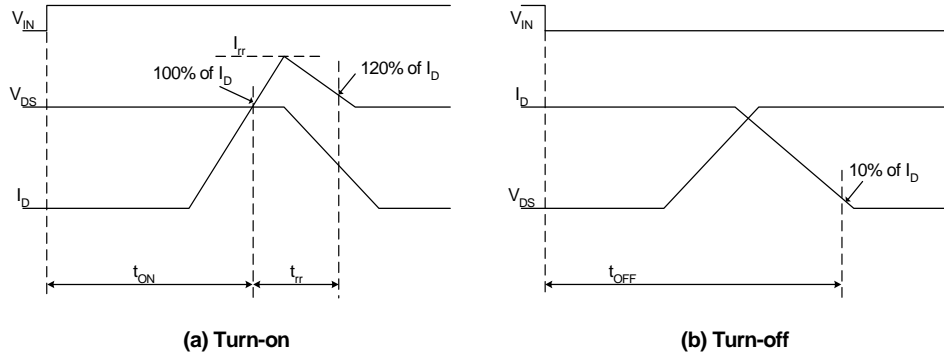
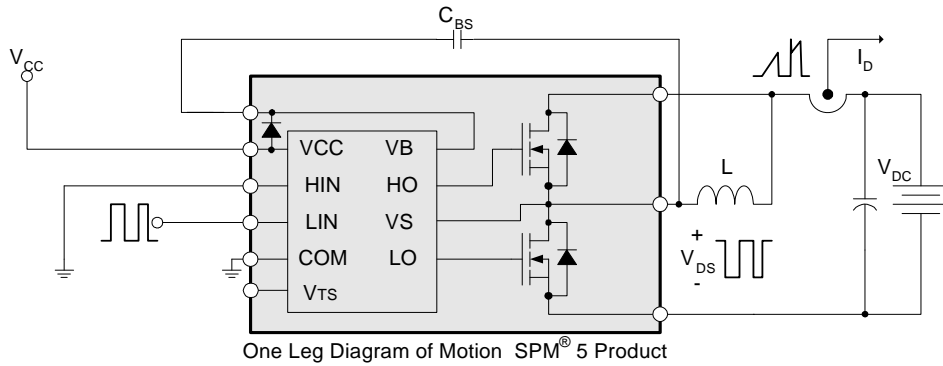

Figure 6. Switching Time Definitions
Figure 7. Switching and RBSOA (Single-Pulse) Test Circuit (Low-side)
- t_{ON} and t_{OFF} include the propagation delay of the internal drive IC. Listed values are measured at the laboratory test condition, and they can be different according to the field applications due to the effect of different printed circuit boards and wirings. Please see Figure 6 for the switching time definition with the switching test circuit of Figure 7.
- The peak current and voltage of each MOSFET during the switching operation should be included in the Safe Operating Area (SOA). Please see Figure 7 for the RBSOA test circuit that is same as the switching test circuit.